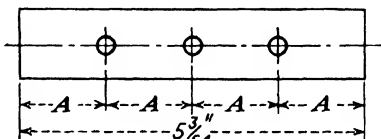

Fig. 120.
5. Holes are to be drilled on the fitting shown in Fig. 120 so that all distances marked  $A$  are equal. Draw a line  $5\frac{3}{4}$  in. long, and locate the centers of the holes. Check the results with a rule.